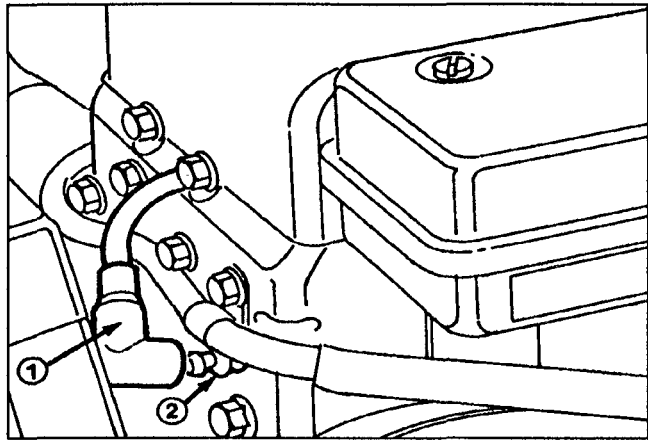

Figure 23
2. Pull wire off spark plug and remove plug from cylinder head (Fig. 23).